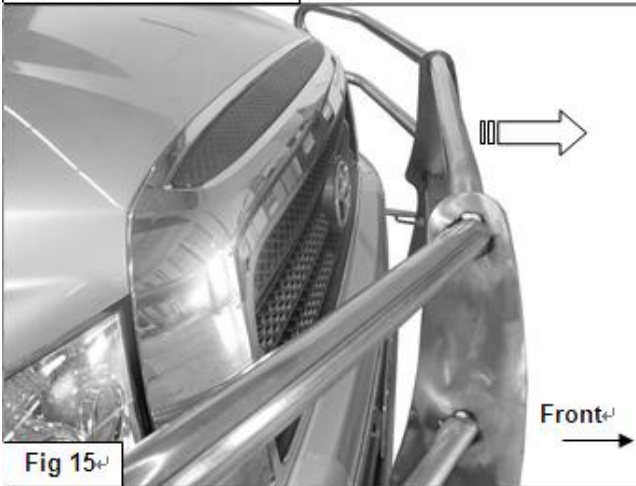
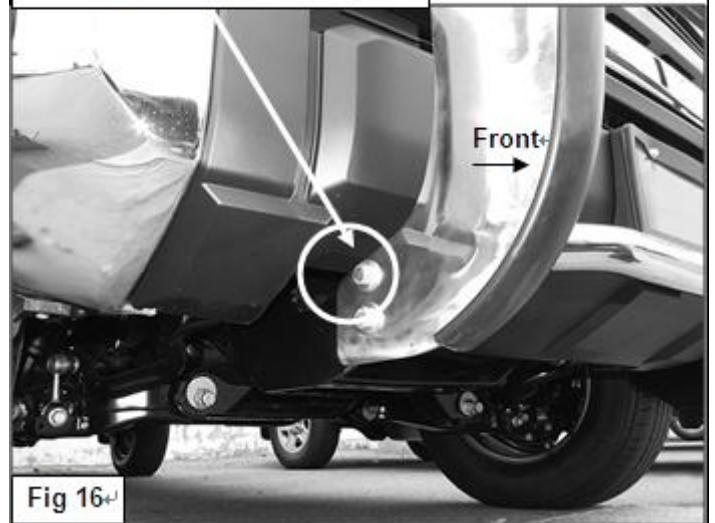

Fig 15
Fig 16
18. Release/loosen the levers on the Quick Release Bolts, **(Figure 13)**, and pull the Grille Guard away from the vehicle to the "open" position, **(Figure 15)**. **NOTE:** It may be necessary to slightly loosen the top (2) 12mm Hex Bolts on the Frame Mounting Brackets to move the Grille Guard, **(Figure 16)**. Center and level the Grille Guard and tighten all hardware including the Frame Mounting Brackets.
20. Slowly close the hood and check for clearance. Release both Quick Release bolts. Push the Grille Guard into the "closed" position. If needed, loosen the upper bolt on each Frame Mounting Bracket, **(Figure 16)**. **WARNING!** Do not completely loosen bolts or damage to the truck or Grille Guard may occur.
23. Lift the levers on the Quick Release bolt to release the clamping pressure, **(Figure 14)**. Pull the Grille Guard out and away from the vehicle to the "open" position, **(Figure 15)**. **NOTE:** If the Grille Guard does not pivot to "open" position, **slightly loosen the 12mm upper hex bolt on each Mounting Bracket, (Figure 16)**. **WARNING!** Do not completely loosen bolts or damage to the truck may occur.
24. Carefully pull on the Grille Guard until it is fully extended away from the vehicle, **(Figure 15)**.
26. **IMPORTANT!** Before closing the hood, always make sure that the Grille Guard is in the full open position and away from the vehicle. Pull on the Grille Guard to verify that it is fully extended away from the vehicle and slowly close the hood, **(Figure 15)**.